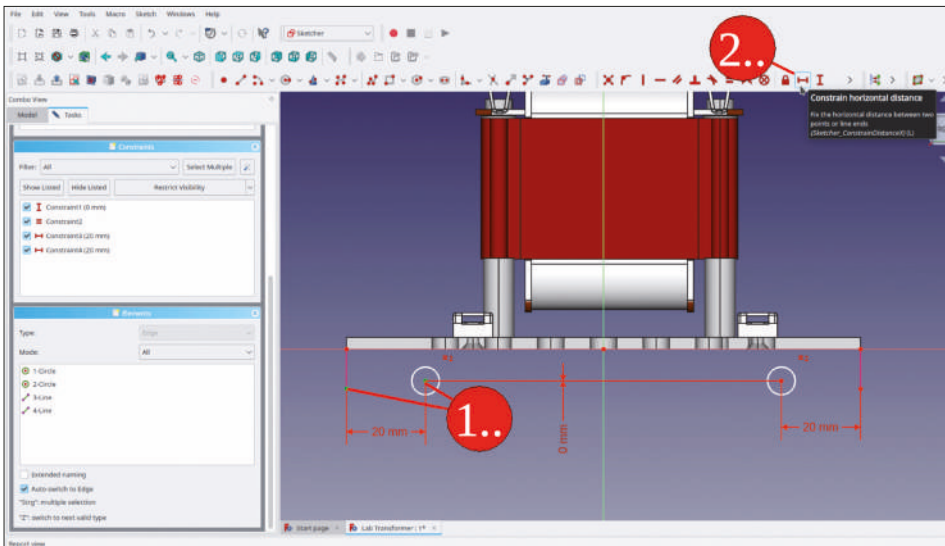

Figure 9-126
34. Mark one of the circle centers and one endpoint of the closest construction line. Constrain the horizontal distance to 20 mm. Repeat that for the opposite circle (Figure 9-126).